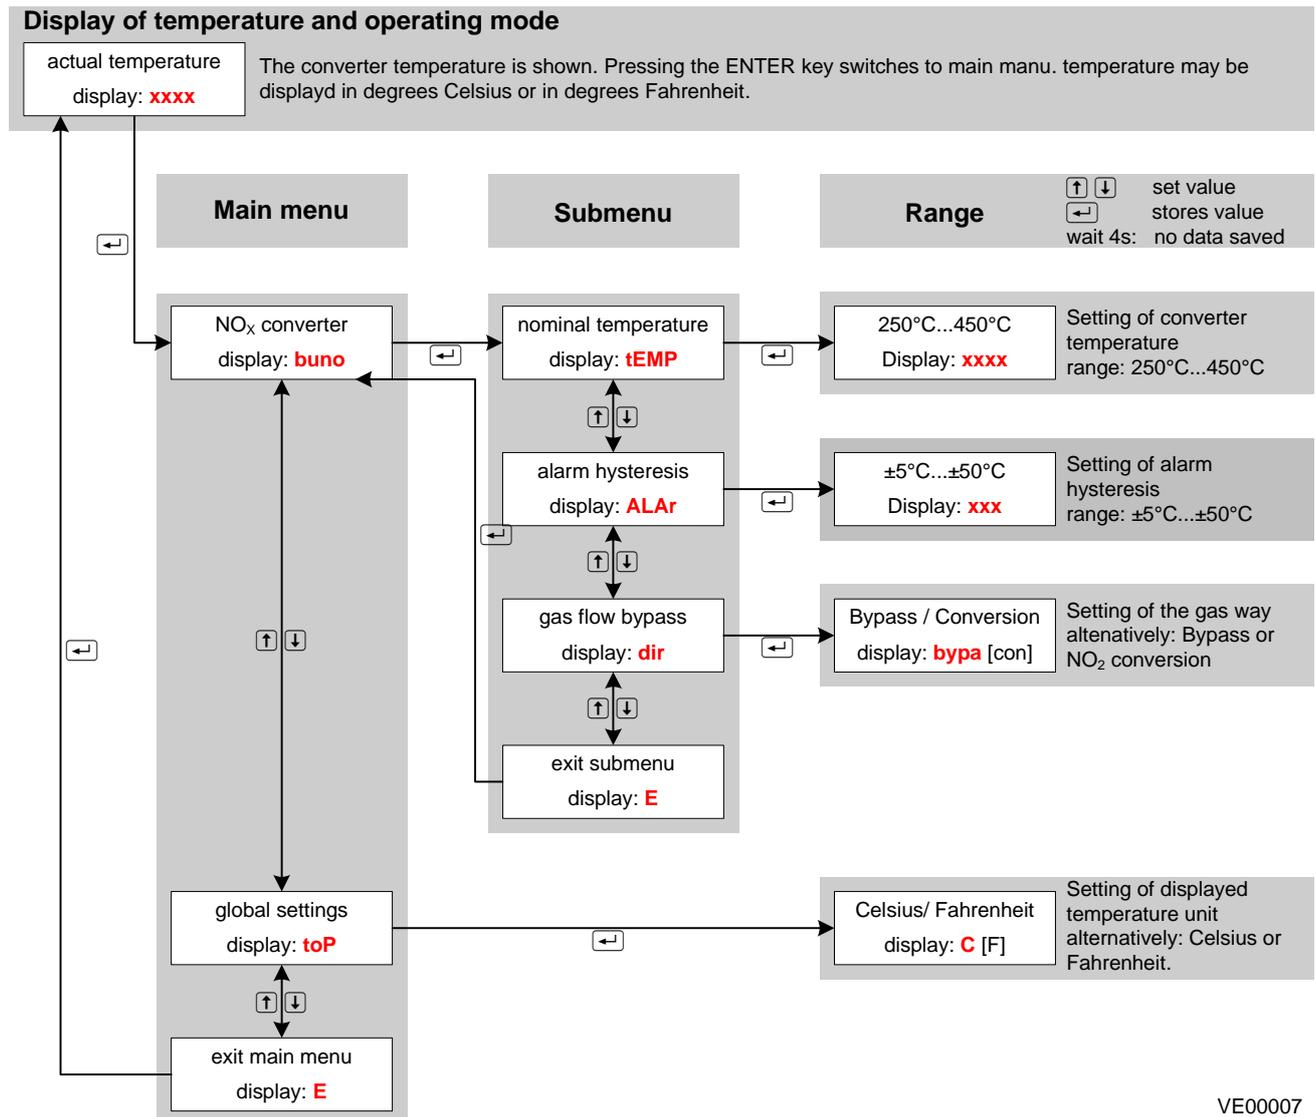

Fig. 5: Overview of the menu items
- To navigate through the main menu use the keys   as shown in Fig. 5.